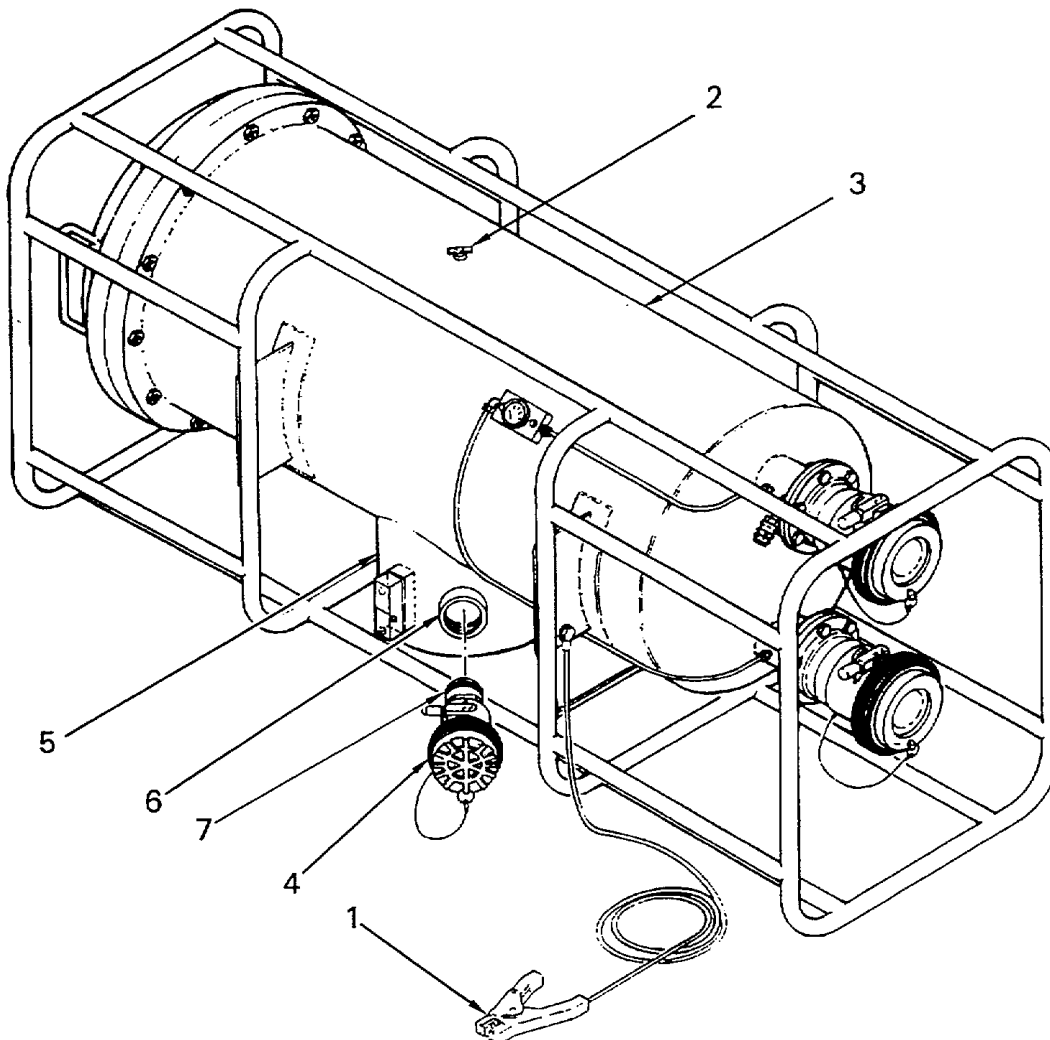

Figure 4-15. Filter Vessel Gravity Drain Plug Replacement
a. Removal. (Figure 4-15)
(1) Connect the liquid fuel filter-separator grounding cable (1) to a secure ground.
(2) Position a drain pan beneath the filter vessel gravity drain plug (2). The drain pan should be of sufficient size to hold between 2 to 3 gals. of fuel.
(3) Remove the filter vessel gravity drain plug (2).
b. Installation. (Figure 4-15)
(1) Inspect and clean drain plug threads on filter vessel (3) and filter vessel gravity drain plug (2).
(2) Apply thread sealant to the filter vessel gravity drain plug (2).
(3) Install the filter vessel gravity drain plug (2).
(4) Place grounding cable (1) in stowage location.